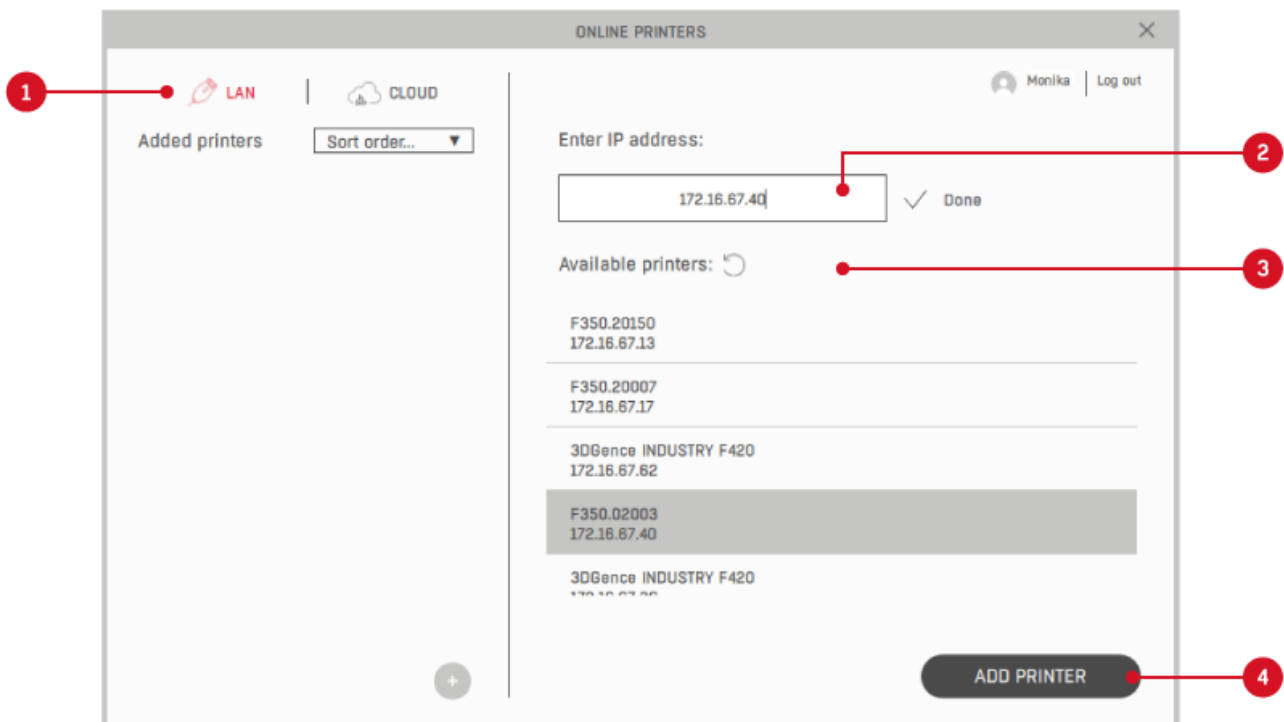

Fig. 27 Screen after selecting LAN - printer search
After selecting the LAN option the user is redirected to the screen associated with the local network (Fig. 27). The computer and printer should be connected to the same IP domain, so that you can search for printers and send files. At the first start, the list of added printers on the left is empty.
6. Add a new printer - moves to the screen shown in fig. 27.